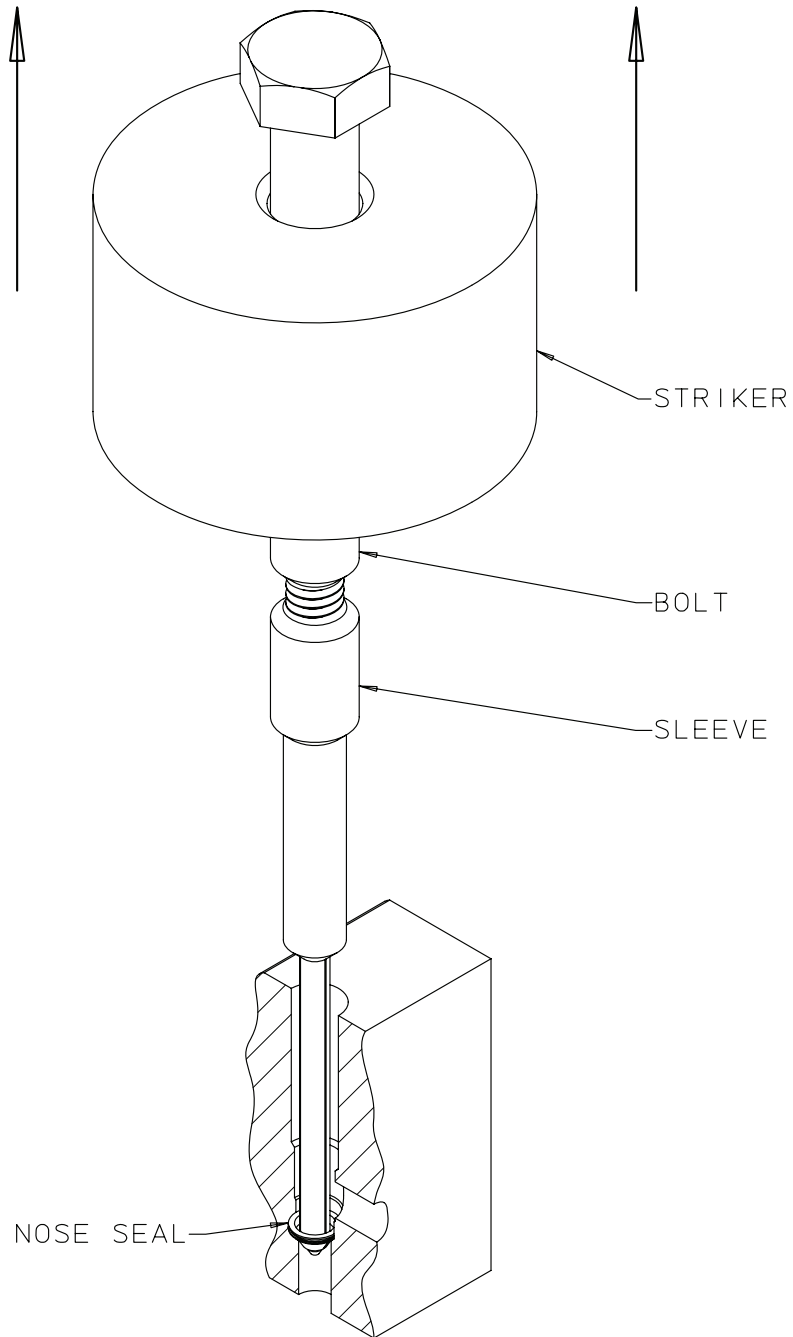

FIGURE 11
- 4c. Insert the tool into the installation hole until the head of the sleeve is through and beyond the nose/compression seal. Thread the tool assembly together expanding the end of the tool sleeve. (See **Figure 11 on Sheet 32**)